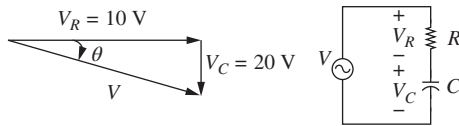

Figure P4.18 Voltage phasor diagram of RC circuit.
- 4-18.** In an RC circuit, the voltage across the capacitor V_C lags the voltage across the resistor by -90° as shown in Fig. P4.18. If $V_R = 10$ V and $V_C = 20$ V, find the total voltage $\vec{V} = \vec{V}_R + \vec{V}_C$.